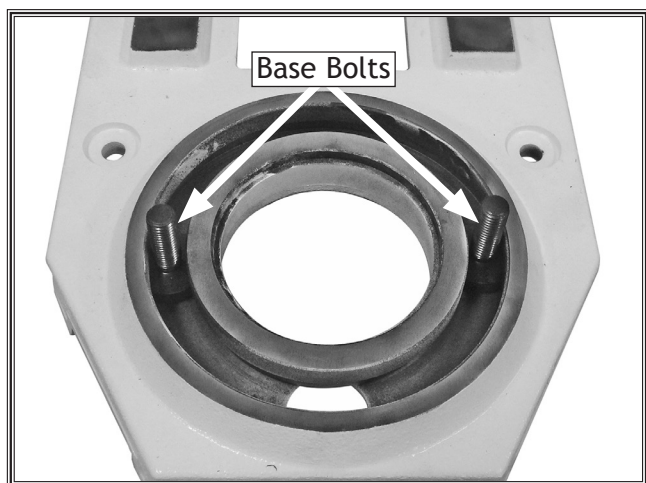

Figure 3. Base bolts positioned in pivot slot.
2. Insert (2) M14-2 x 40 base bolts into pivot slot from underneath base, as shown in **Figure 3**.